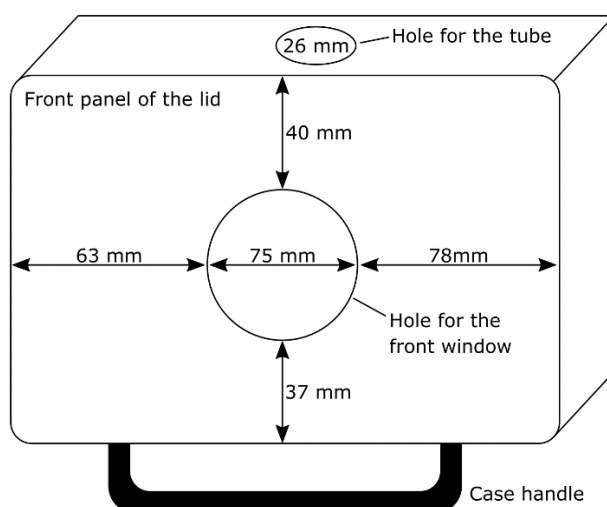

Figure 3: Positions of the holes for the window on the front panel of the case lid and the tube.
1. To insert the front window, drill a 75 mm diameter hole to the front panel of the case (Fig. 3). Insert the base part of the window holder to the inner side of the case.
6. Drill a 26 mm diameter hole as shown in Fig. 3 for the cables/tube. The hole should be positioned in the middle of the panel at the intended top of the scanner. Pass the tube through the hole, the tube should be a very tight fit.